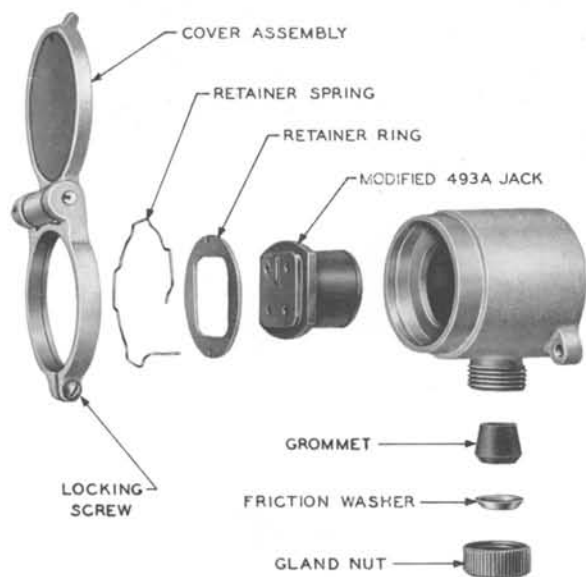

FIG. 22—ASSEMBLY OF KS-16151, LIST 1 JACK
11.04 Assemble and install the KS-16151, List 1 jack as shown in Figs. 22, 23, and 24, Tables H and J, and as follows: